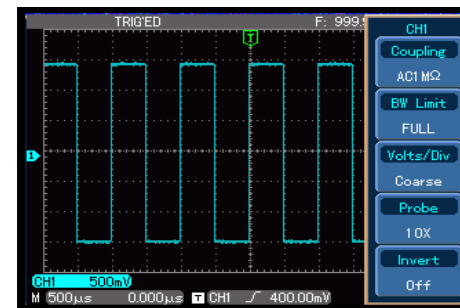

Figure 1-9 Probe compensation signal
③ Connect the probe tip and ground clamp to the connection terminal for the probe compensation signal. Press [**AUTO**] and you will see a square wave in the display (1kHz, approximately 3V, peak-to-peak value) in a few seconds, as shown in Figure 1-9.